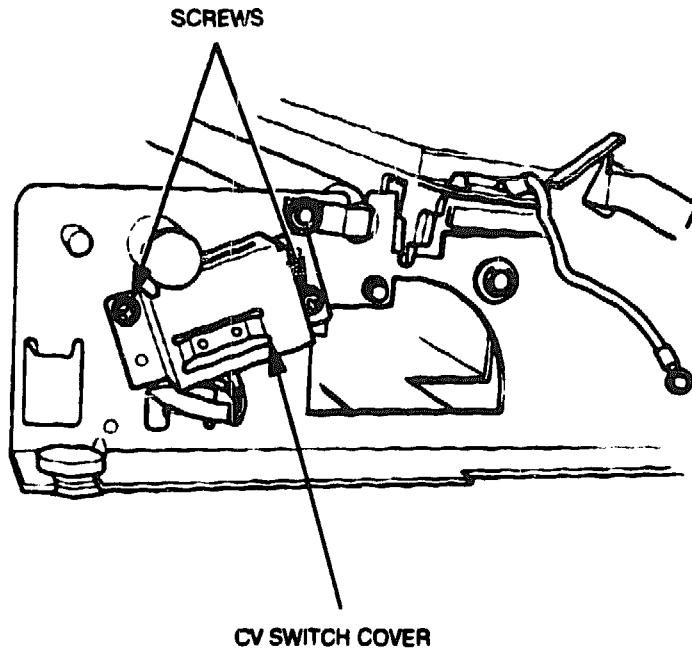

Figure 6-36 Cover Switch Assembly Screws
4. Remove the two screws that secure the cover switch assembly to the lower side plate (R) assembly and remove the cover switch assembly from the printer (see Figure 6-36).